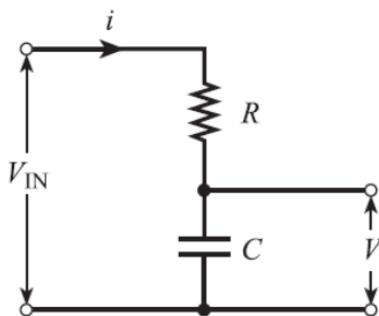

Figure 2.11: R-C Circuit
- Construct the circuit as shown in Fig. 2.11 with given electronic components.